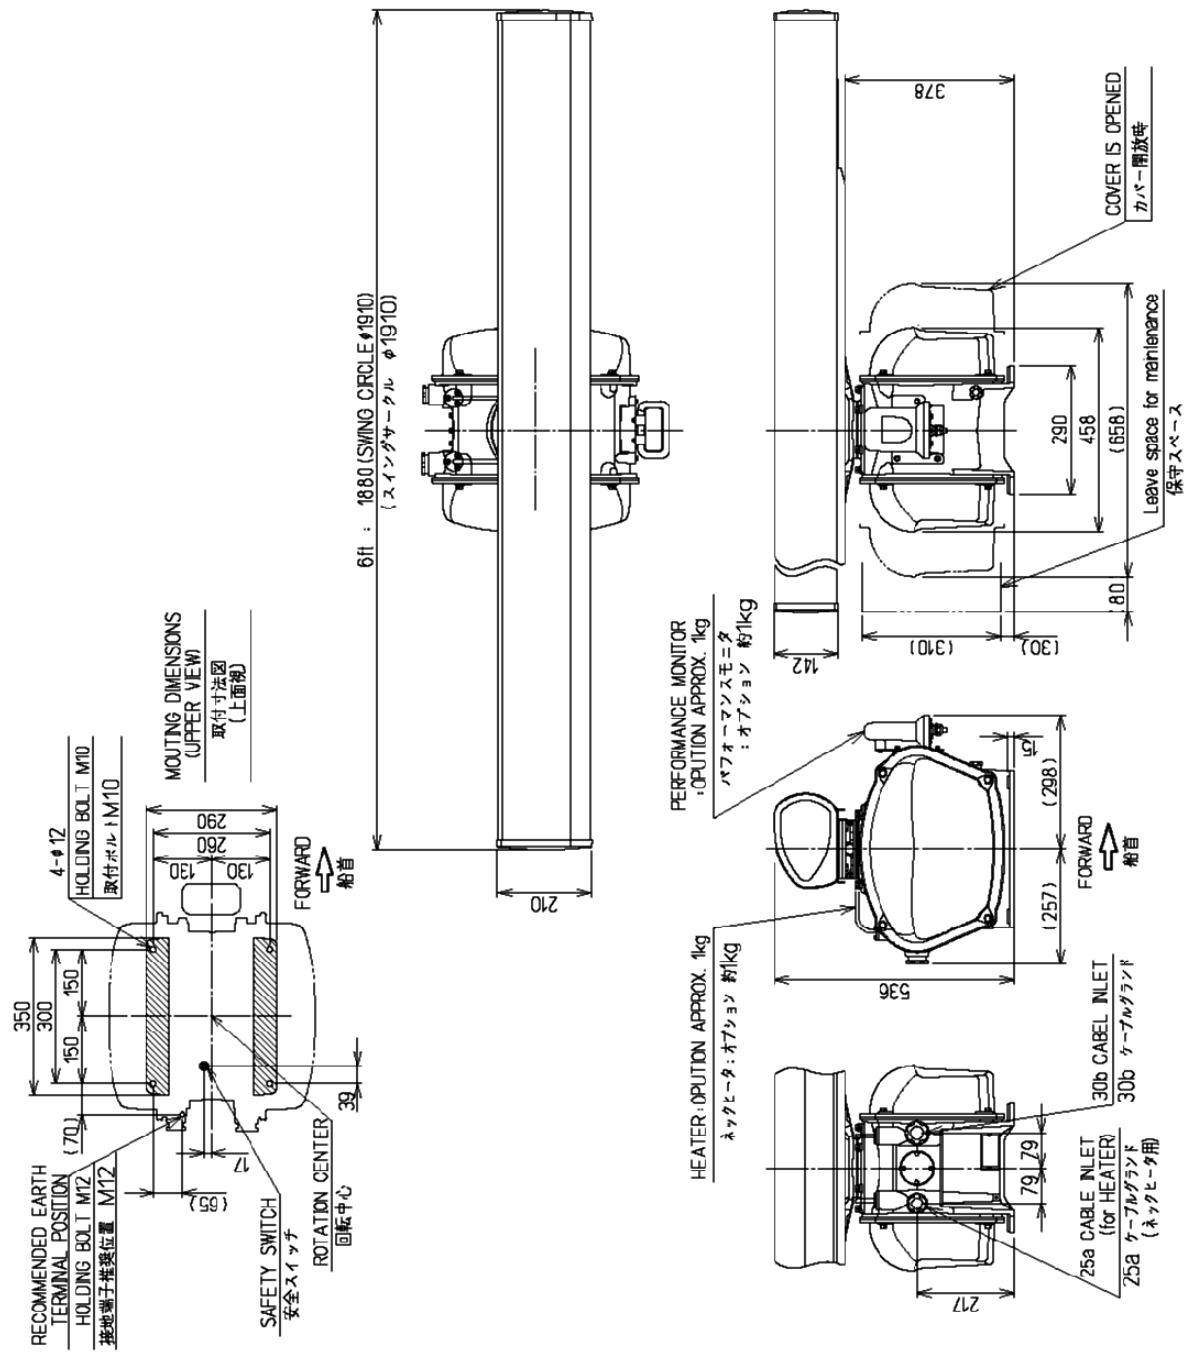

Fig. 1.4 Outside Drawing of SCANNER UNIT, Type NKE-600-2F1T-HS
- Fig. 1.4 Outside Drawing of SCANNER UNIT, Type NKE-600-2F1T-HS